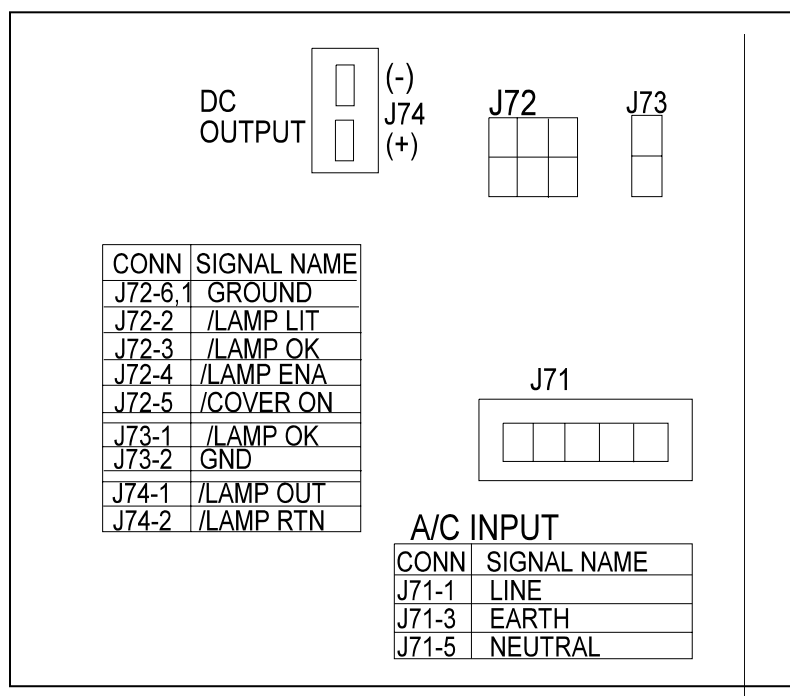

Figure 3-3. Arc Lamp Power Supply connections.
2. Place a DVM (set to read up to 200VDC) across the Arc Lamp DC INPUT \pm terminals, J74, (Figure 3-3).